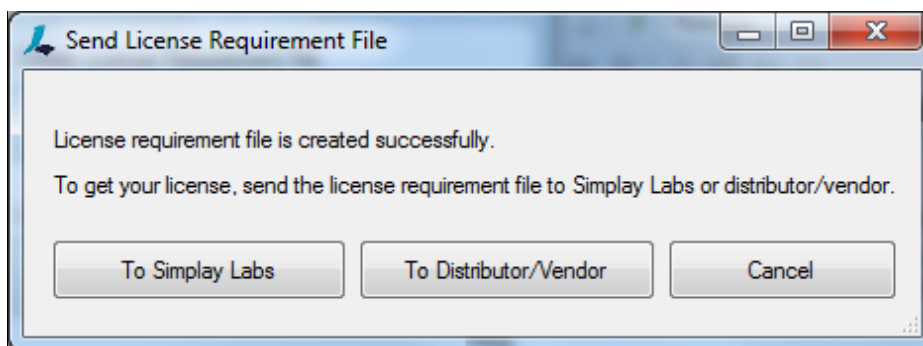

Figure 3.13. Send by Email Dialog
9. The Send License Requirement File dialog pops up (Figure 3.13).